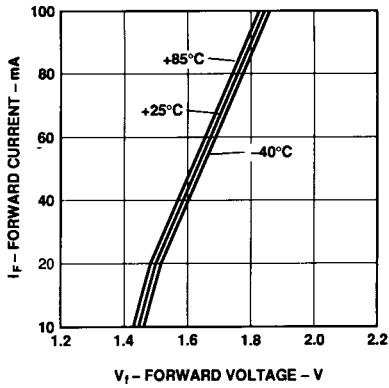

Figure 9. Forward Voltage and Current Characteristics.
*Example for  $I_{F\ ON} = 100 \text{ mA}$ :  $V_F$  can be obtained from Figure 9 (= 1.84 V).*